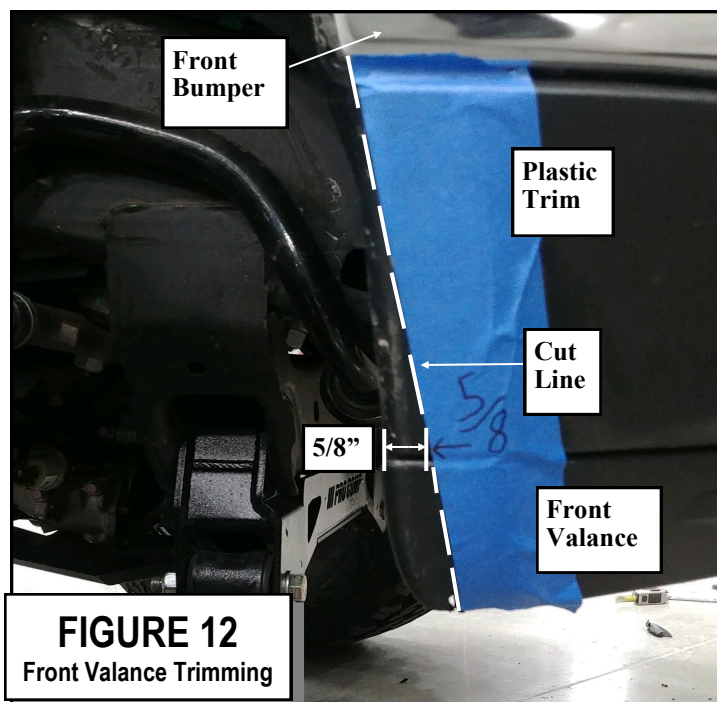

FIGURE 12
81. If trimming is necessary, measure **5/8"** from the front of the wheel well along the upper valance. A diagonal line can be made from the top of the bumper, beneath the chrome, to the bottom of the valance. See FIGURE 12. Using a suitable cutting tool, (abrasive cutoff wheel, Sawz-all, etc.) trim along the marked line. This cut should be right behind a mounting bolt on the inside of the valance. After trimming, clean/sand the sharp edge with a file until it is safe to touch. The fender liner inside the front of the wheel well can be lightly hit with a dead blow hammer to allow additional tire clearance.